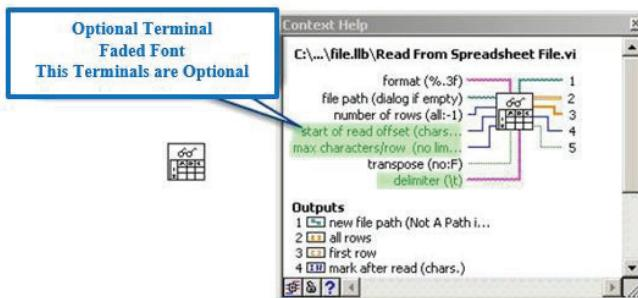

Figure 2.65: Optional Terminal
**Optional connection** the labels of these Terminals appear in **faded font**, as shown in figure 2.65.